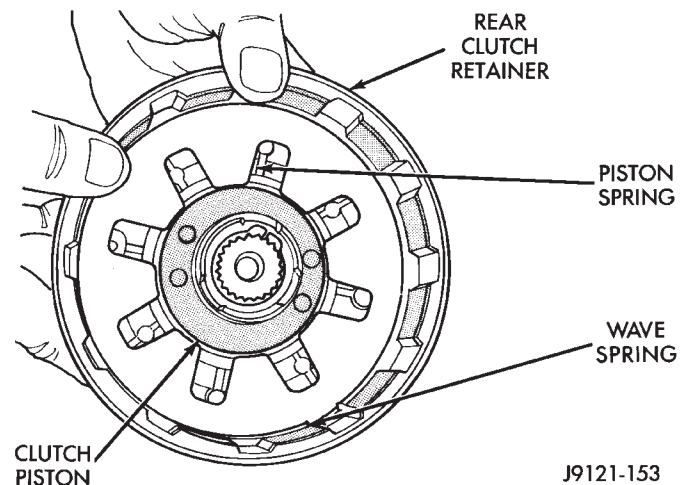

Fig. 142 Piston Spring/Wave Spring Position
(9) Install piston spring in retainer and on top of piston (Fig. 142). Concave side of spring faces downward (toward piston).
(10) Install wave spring in retainer (Fig. 142). Be sure spring is completely seated in retainer groove.